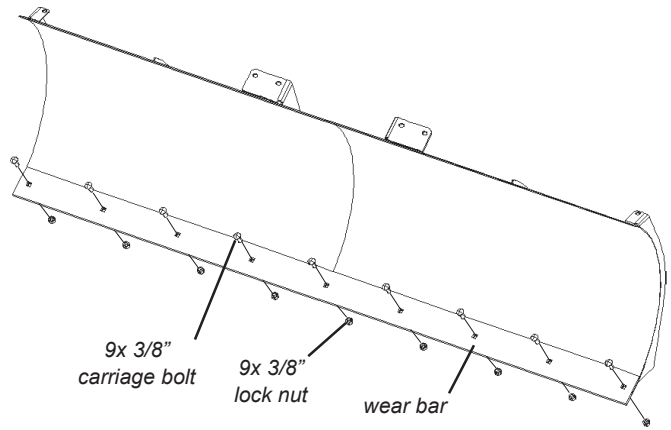

Figure 2 Assemble Wear Bar to Blade
4. Attach the wear bar to the plow blade as shown in figure 2. Place 3/8" dia carriage bolts through each of the square holes in the wear bar, and through their respective holes on the blade. Terminate with a 3/8" dia lock nut.